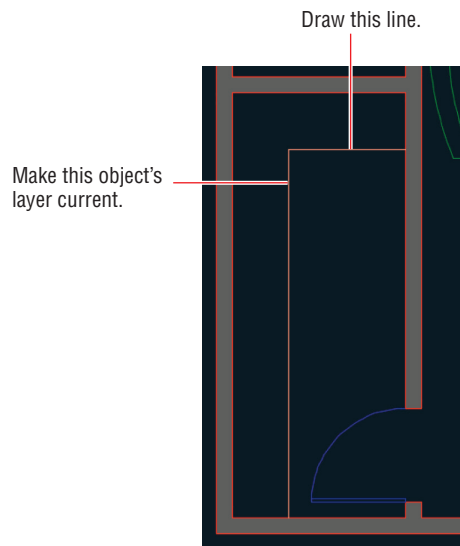

FIGURE 6.8 Drawing a line after using the Make Object's Layer Current tool
-  11. Click the Line tool on the Draw panel and draw the line shown in Figure 6.8. Press Esc to end the LINE command.